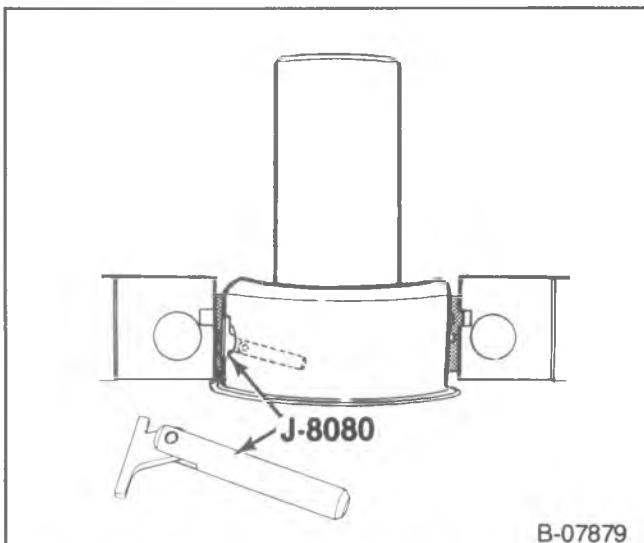

Figure 13—Removing the Main Bearing Insert
- Insert J-8080 into the crankshaft oil hole (figure 13).